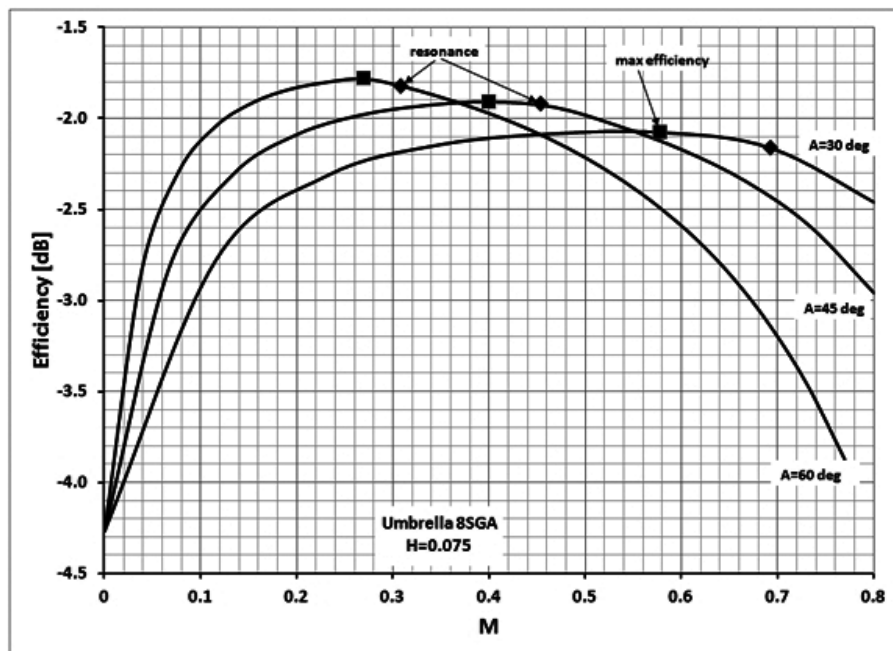

Figure 19 — Efficiency in dB as a function of M with A as the parameter and $H = 0.075$.
As shown in Figure 19, the apex angle of the umbrella (A) has an effect on the value for M at the maximum efficiency point. The larger A the lower the losses and the smaller (in terms of M) becomes the umbrella. Note that for larger values of A the efficiency peaks are higher but narrower. Making A as large as practical is very helpful for shorter antennas.